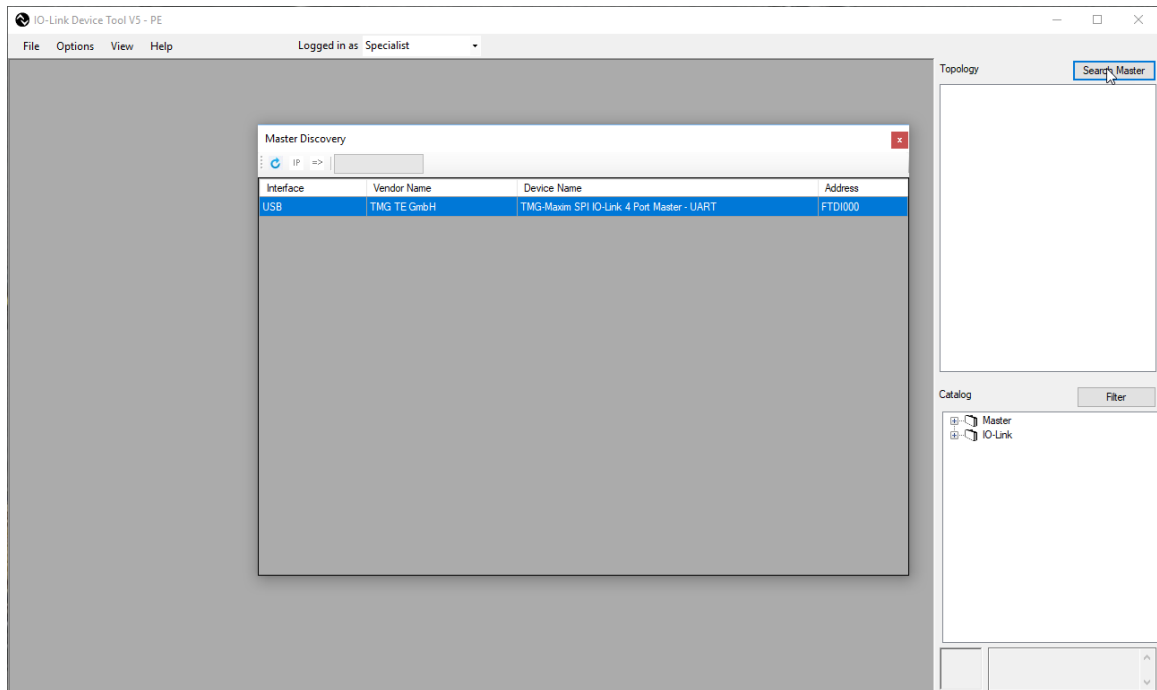

Figure 4. TMG TE's IO-Link Device Tool software.
5. Run the TMG TE's IO-Link Device Tool software as shown in **Figure 4**. At the top right, select **Search Master**. A window pops up and shows the master that is found on the PC.